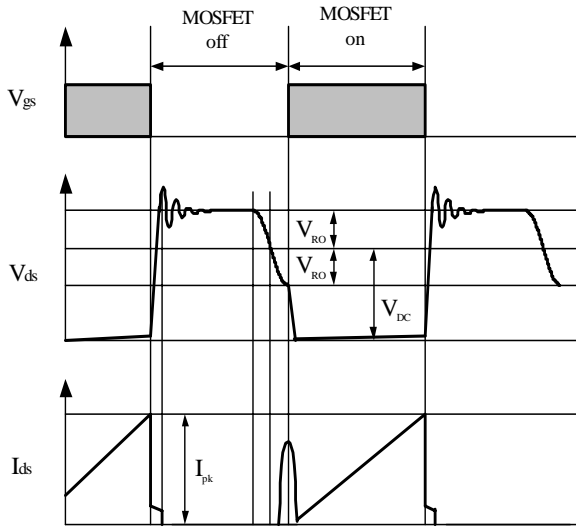
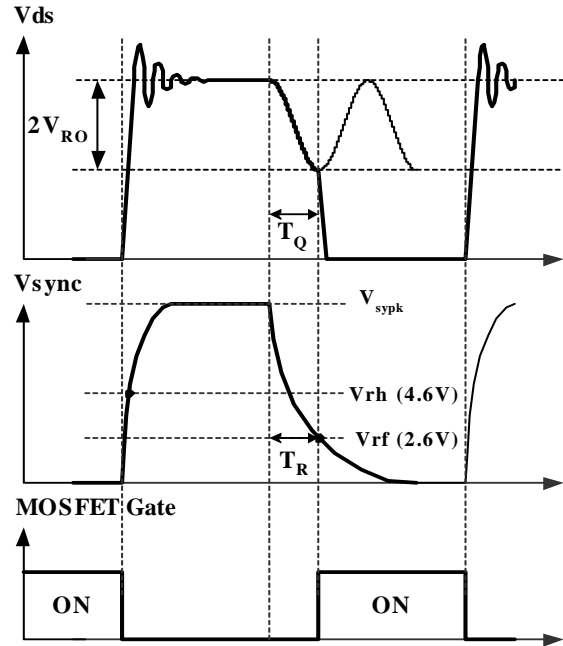

Figure 4. Quasi-resonant operation waveforms
Figure 5. Normal quasi-resonant operation waveforms
1. Startup : Figure 4 shows the typical startup circuit and transformer auxiliary winding for FSCQ1565RP application. Before FSCQ1565RP begins switching, FSCQ1565RP consumes only startup current (typically 25uA) and the current supplied from the AC line charges the external capacitor (C_{a1}) that is connected to the V_{cc} pin. When V_{cc} reaches start voltage of 15V (V_{START}), FSCQ1565RP begins switching, and the current consumed by FSCQ1565RP increases to 4mA. Then, FSCQ1565RP continues its normal switching operation and the power required for this device is supplied from the transformer auxiliary winding, unless V_{cc} drops below the stop voltage of 9V (V_{STOP}). To guarantee the stable operation of the control IC, V_{cc} has under voltage lockout (UVLO) with 6V hysteresis. Figure 5 shows the relation between the FSCQ1565RP operating supply current and the supply voltage (V_{cc}).